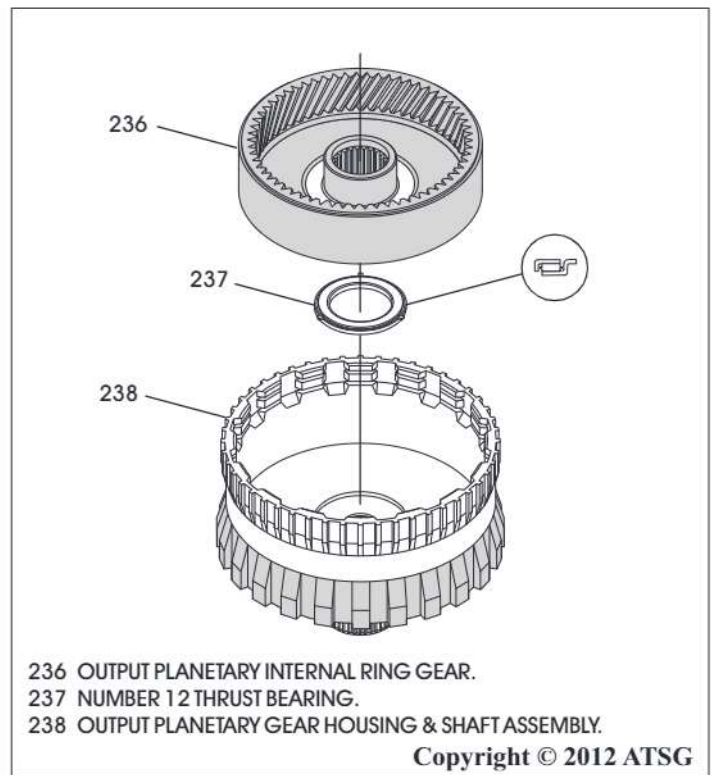

Figure 120
5. Install number 12 thrust bearing in the direction shown in Figure 120.
6. Install the output planetary internal ring gear, as shown in Figure 120.